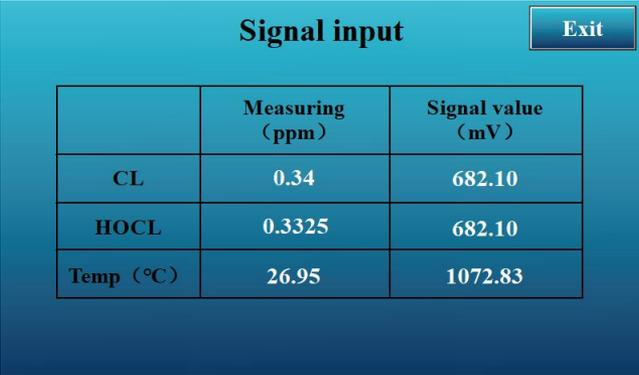

Fig.14 Signal input interface
**Signal input:** Click the "Signal Input" button on the Menu interface to enter the "signal input " interface. You can view the measured value and input signal value. As shown in Fig.14 .